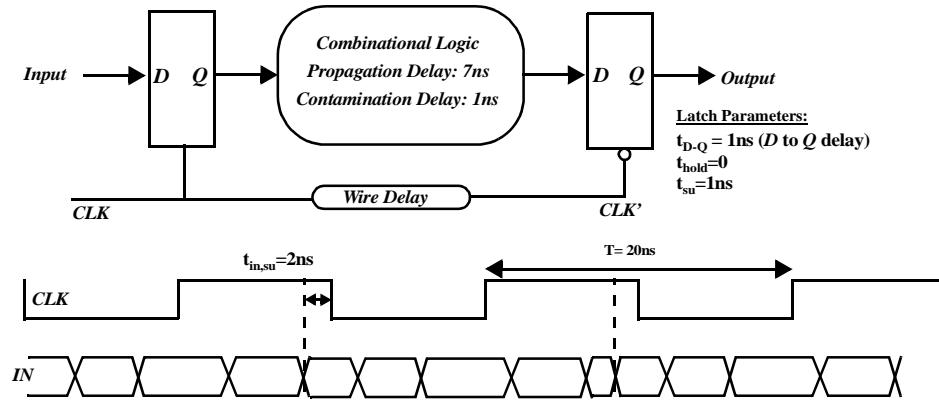

Figure 0.8 Latch based pipeline
5. Consider the following latch based pipeline circuit shown in Figure 0.8.